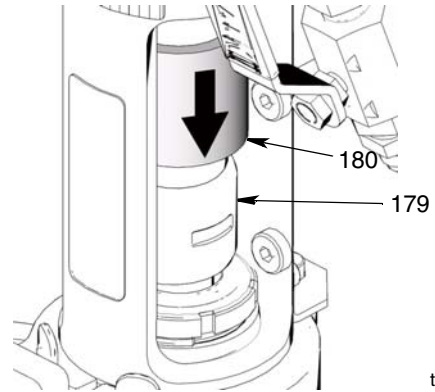

FIG. 18
6. (FIG. 18) Slide couple cover (180) down over rod couplers (179).